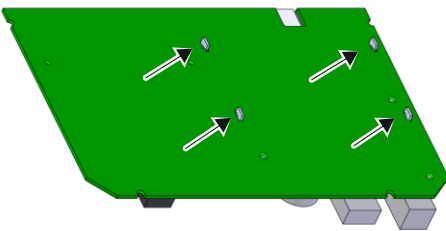

Fig. 1: Rear of control unit USR-51
- Bend back the metall bracket (→ Fig. 1)